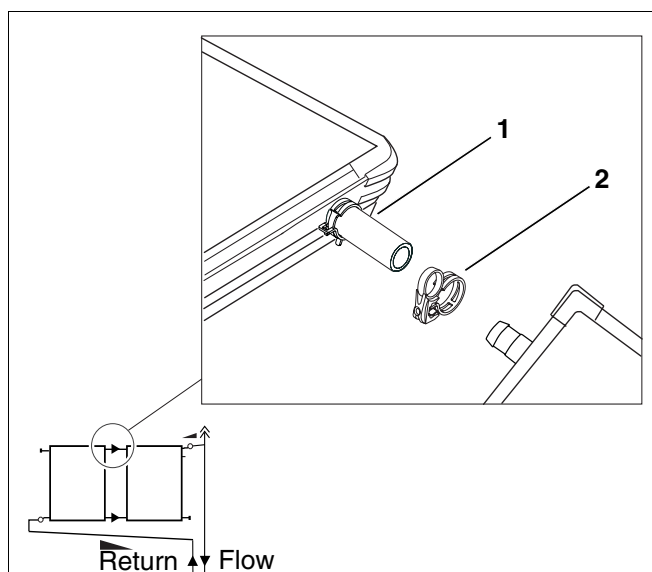

Fig. 34 Pull the hose clip over the solar hose.
As standard, the hose clip is fitted to (Fig. 34, **Item 2**) the solar hose (Fig. 34, **Item 1**).
- ▶ Before inserting the next collectors, push the hose clips (Fig. 34, **Item 2**) over the pre-assembled solar hoses (Fig. 34, **Item 1**).
Ensure that the second hose clip (Fig. 34, **Item 2**) is located on the solar hose.